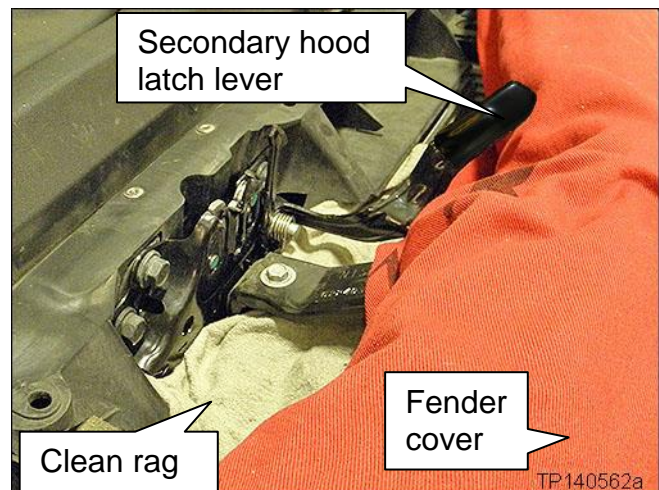

Figure 2
3. Place a clean rag under the hood latch as shown in Figure 2.
4. Place a clean fender cover to protect the front fascia as shown in Figure 2.